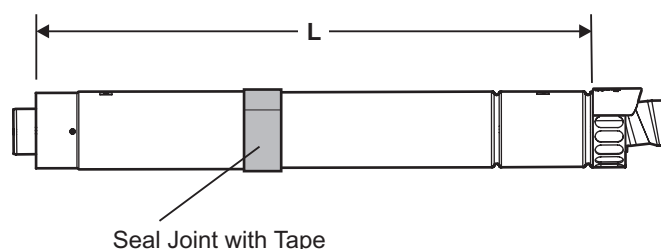

Fig. 5.7
- Determine the overall length (L) of flue required, (see Fig. 5.7) as follows:-